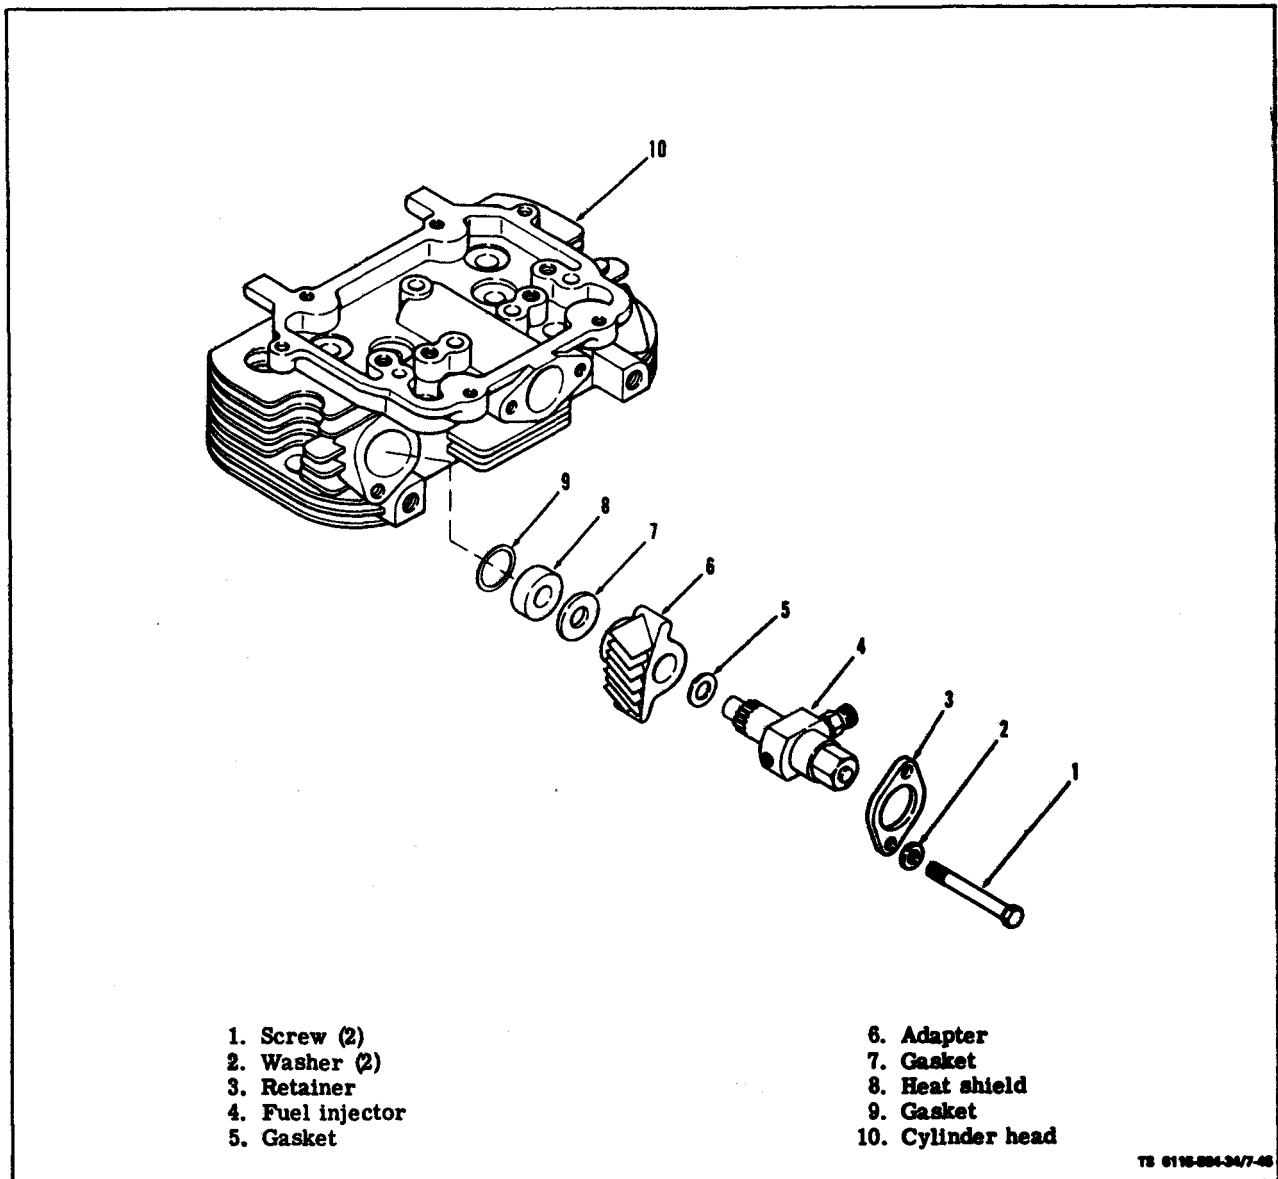

Figure 7-45. Injector Nozzle Removal
(2) Remove screws (1, figure 7-45), washers (2) and retaining flanges (3).
(3) Remove fuel injector (4), gasket (5), aapter (6), gasket (7), heat shield (8) and gasket (9). Separate injector from other components.
- (1) Make sure old gasket material has been removed from injector.
- (2) Assemble new nozzle gasket (5, figure 7-45), adapter (6), gasket (7), heat shield (8) and gasket (9) on injector (4).
- (3) Install injector and assembled parts into cylinder head (10).
- (4) Install retaining flange (3) and tighten down with screws (1) and washers (2).
- (5) Reconnect fuel lines as described in paragraph 7-2.
- (6) On ASK equipped generators, refer to Operator and Organizational Maintenance Manual and replace right panel assembly.